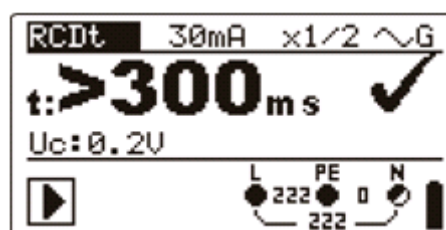

Figure 5.16: Example of trip-out time measurement results
- ❑ **Connect** test leads to the item to be tested (see figure 5.16).
- Connect** test leads to the item to be tested (see *figure 5.16*).
- ❑ **Connect** test leads to the item to be tested (see *figure 5.16*).
<ul style="list-style-type: none"> □ Select the RCD function using the function selector switch. □ Set sub-function AUTO. □ Set test parameters (if necessary). □ Connect test cable to the instrument. □ Connect test leads to the item to be tested (see figure 5.16). □ Press the TEST key to perform the test. 	Start of test